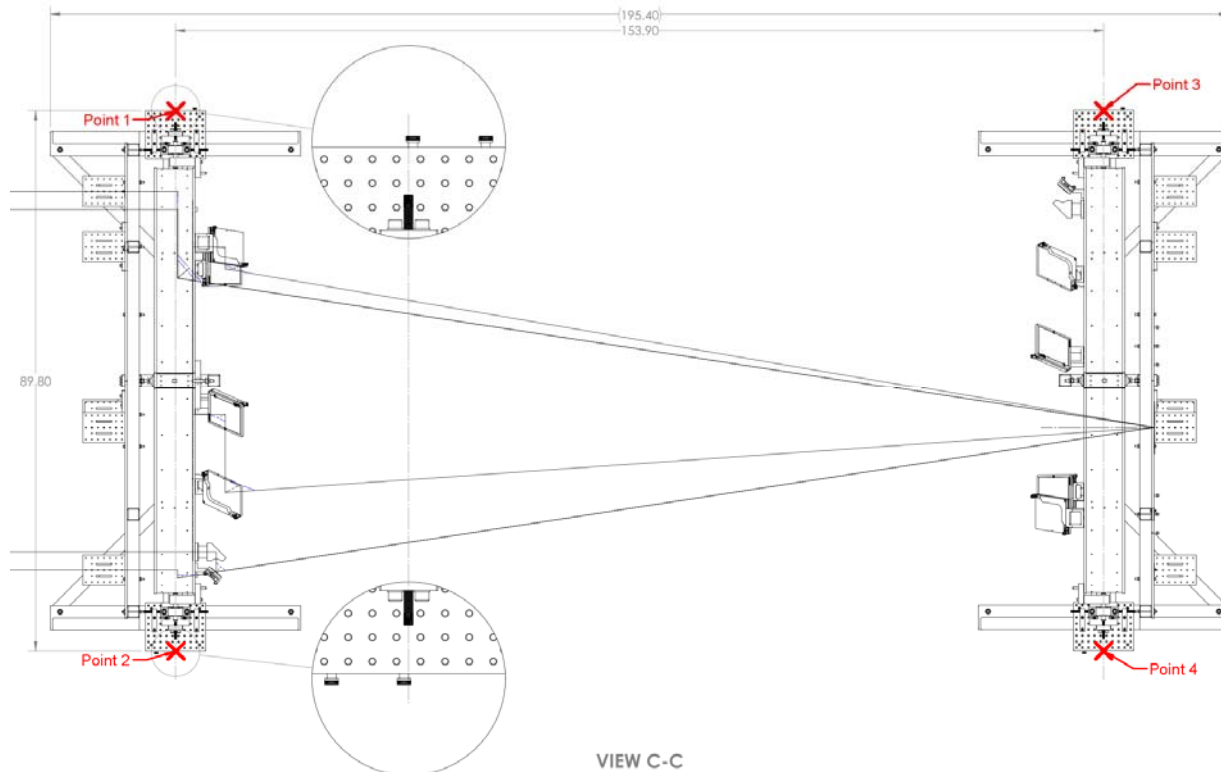

Figure 1: Aerial view of the assembly
This document explains the procedure for positioning the structures for the pre-alignment in-vacuum periscopes, for aLIGO Pcal D1200174. The structures consist of two "cradles", each one capable of supporting a complete periscope structure, allowing the pre-alignment of two of them at the same time. Figure 1 is a schematic aerial and lateral view of the complete assembly.
2. Mark a target on the floor as shown in Figure 1 within $\pm 1/6$ inches. Measure the diagonals and check if they are equal